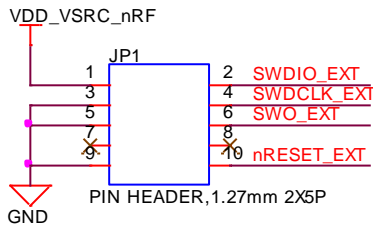

Figure 7: BL654 development board schematic
**Note:** Reference on the BL654 development board schematic (Figure 7) shows the DVK development schematic wiring only for the JTAG connector and the BL654 module JTAG pins.
JTAG is require because Nordic SDK applications can only be loaded using the JTAG (*smartBASIC* firmware can be loaded using JTAG as well as over the UART). We recommend that you use JTAG (2-wire SWD interface) to handle future BL654 module firmware upgrades. You **must** wire out the JTAG (2-wire SWD interface) on your host design (see Figure 7, where the following four lines should be wired out – SWDIO, SWDCLK, GND and VCC). *smartBASIC* firmware upgrades can still be performed over the BL654 UART interface, but this is slower than using the BL654 JTAG (2-wire SWD interface) – (60 seconds using UART vs. 10 seconds when using JTAG).